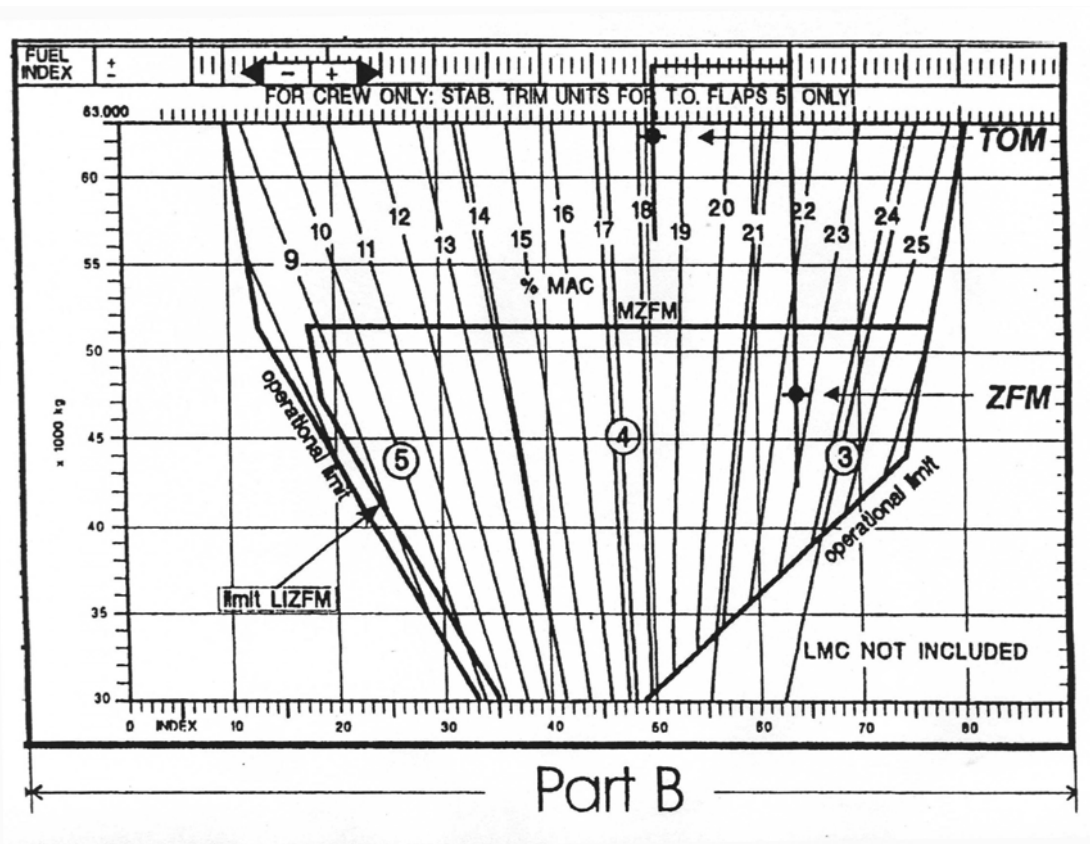

Figure 4.H CG envelope of Trim Sheet
9. Where the vertical line dropped from a previous scale does not directly match the scale line, the compiler must measure from the point of entry the exact distance to be moved. As can be seen from the line in figure 4.G on completing the measurement a vertical line is dropped into the centre of the next row.
11. On completing the compartments the aircraft's ZFM CG can be found by dropping a vertical through the fuel index row into the CG envelope. See figure 4.H below.